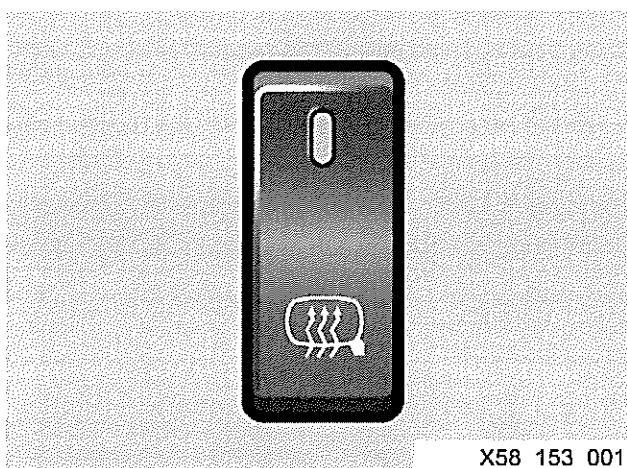

Fig 10 Mirror heaters
- 23 Refer to Fig 10. To switch on the mirror heaters, proceed as follows: